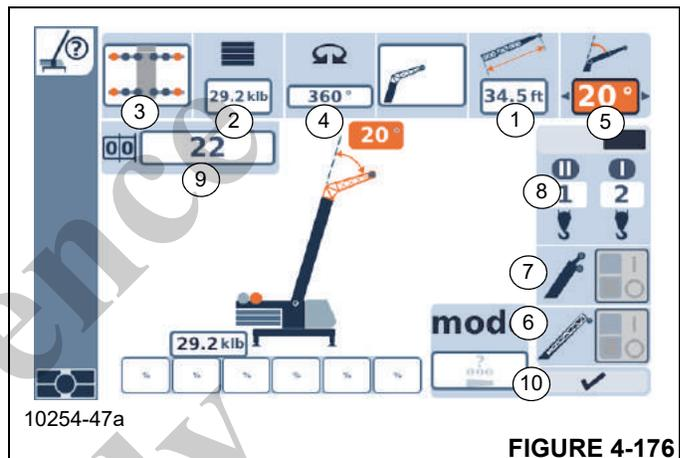

FIGURE 4-176
**NOTE:** When performing a lift over the auxiliary boom nose, select “auxiliary boom nose installed” in the RCL (7, .Figure 4-176). The predicted radius in the RCL will include the added length of the auxiliary boom nose.
- Either enter the individual components (1, Figure 4-176) to (8) one after the other.
- Or enter the RCL code (9) and the reeving (8).